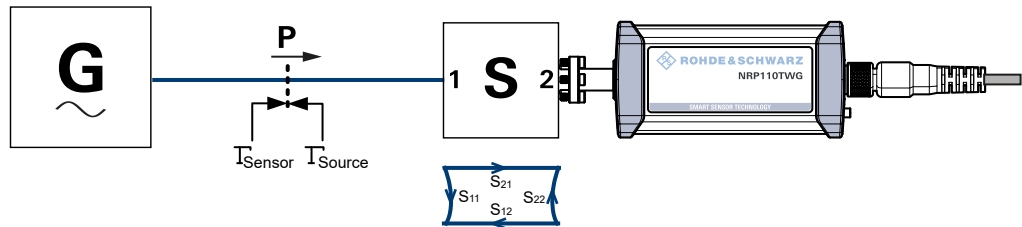

Figure 8-3: Correction of interactions between the power sensor, the signal source, and the S-parameter device
The interaction between the complex reflection coefficient Γ_{sensor} of the power sensor and the reflection of port 2 is expressed by s_{22} , see Figure 8-3. If the S-parameter correction is enabled, this interaction is always considered, regardless whether gamma correction is performed or not.
- S-parameter device if the S-parameter correction is enabled, S11 in Figure 8-3.